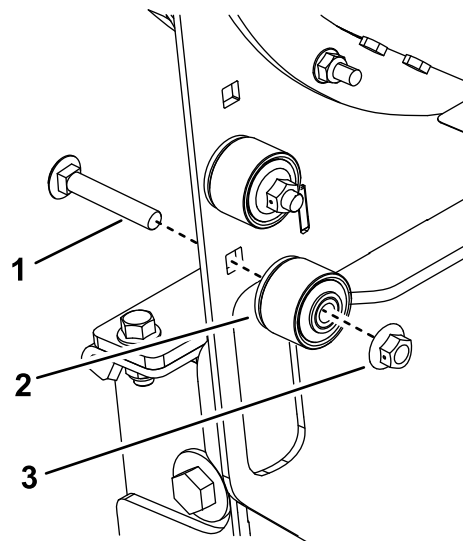

Figure 31
10. Use the fasteners to store the bushing assemblies on the left side of the blower frame (Figure 31).